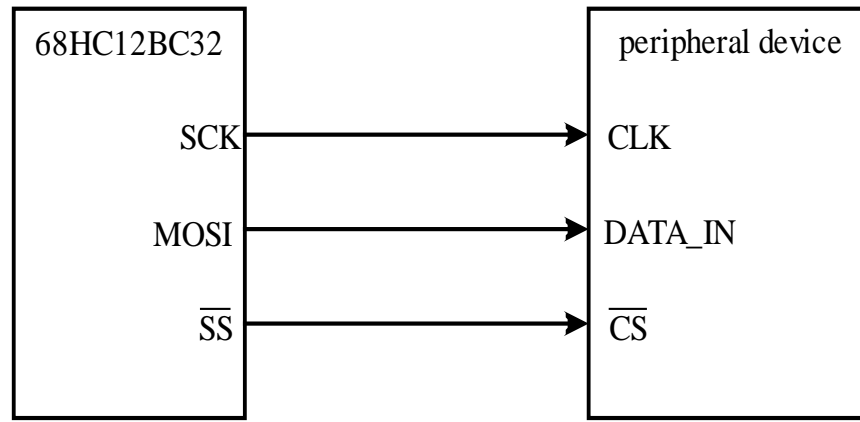

Figure 9.26 Circuit connection between the 68HC12 SPI and the peripheral device
- The pin connection is shown in Figure 9.26.